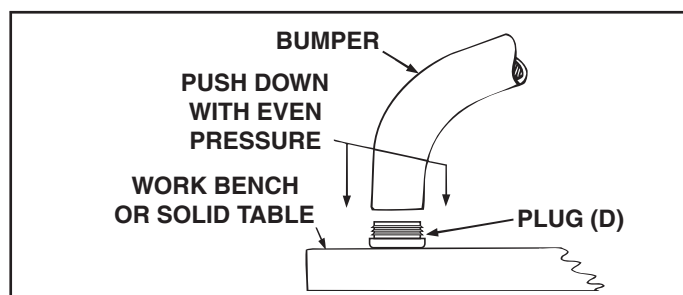

FIGURE 3
STEP 2: (SEE FIGURE 3)
- Place plug (D) on a work bench or solid table and push end of bumper down onto plug. Repeat for all four plugs.